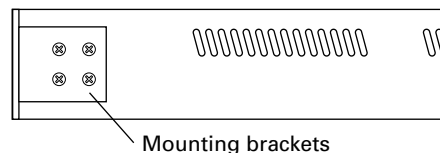

Fig. 3: Fastening the mounting brackets
- ☐ Attach the mounting brackets supplied as shown in Fig. 3: